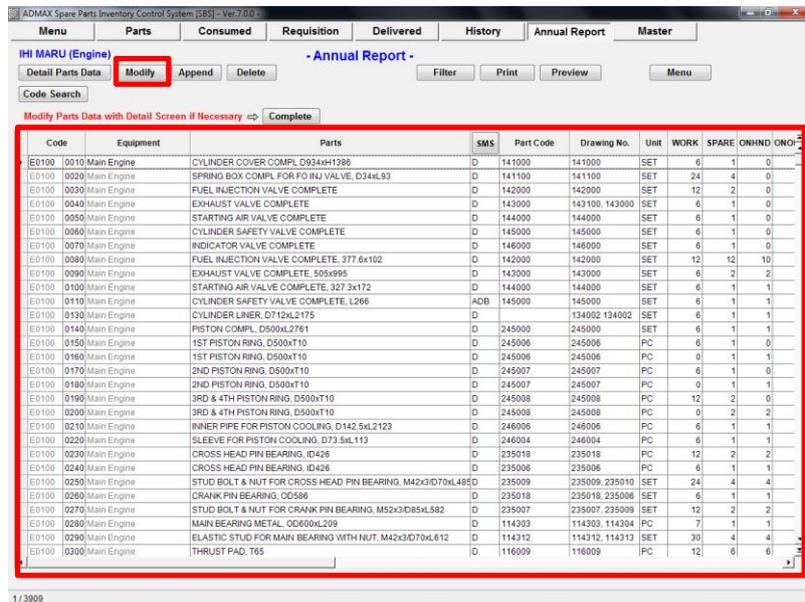

Fig 10.3 Annual Report
8. “Annual Report Screen”(Fig.10-3) is displayed.